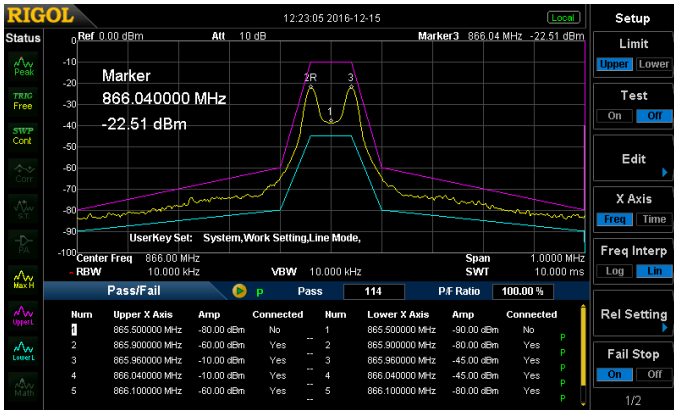
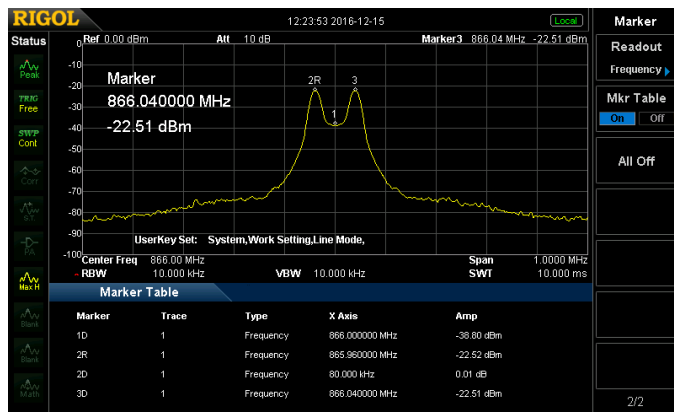

Figure 3: pass / fail mask for curve analysis
Figure 4: Measurement values of 2FSK signal (see marker table)
The tests performed *in figure 3* and *figure 4* show different kind of important measurement:
- Signal shall not be higher than customer defined pass / fail curve (*see figure 3*). Test can be performed with a DSA832, DSA832E or DSA8754.
- Absolute power values of these two frequencies can be analyzed (*figure 4*, marker 2R and 3D)
- Information of carrier offset can be checked with marker function (*figure 4*, marker 1D)
- Difference of power values of two frequencies can be measured (*figure 4*, marker 2R and 2D)